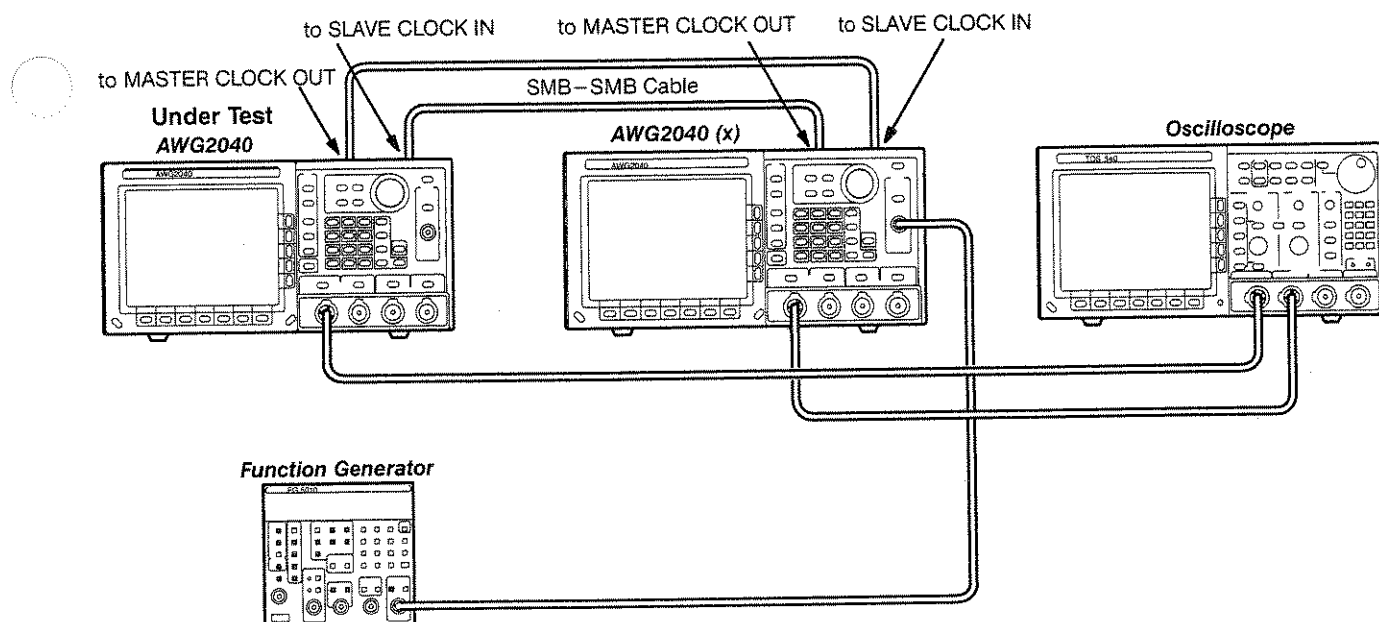

Figure E-11: Slave Mode Initial Test Hookup
- Connect the AWG2040(X) CH1 output through a BNC coaxial cable to the oscilloscope CH2 vertical input connector.
- Connect the function generator output through a BNC coaxial cable to the AWG2040(X) TRIGGER INPUT connector.
- c. *Hook up the AWG2040(X) and AWG2040 :*
- Connect the AWG2040 rear-panel MASTER CLOCK OUT connector through a coaxial cable (SMB–SMB connector) to the AWG2040(X) rear-panel SLAVE CLOCK IN connector.
- Connect the AWG2040 rear–panel SLAVE CLOCK IN connector through a coaxial cable (SMB–SMB connector) to the AWG2040(X) rear–panel MASTER CLOCK OUT connector (see Figure E-11).